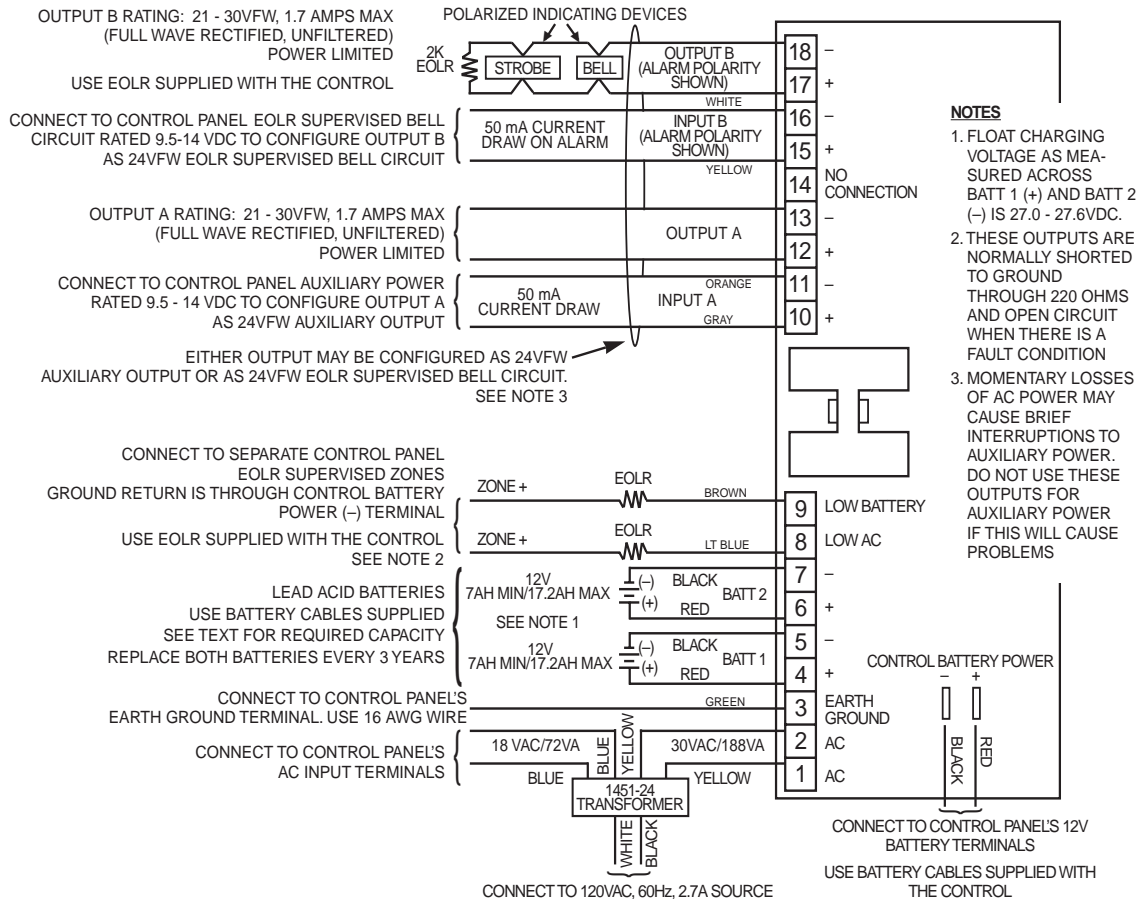

Figure 3. Making Connections to the PS24 Module
Wire AC power and earth ground as shown in Figure 3. **DO NOT APPLY AC POWER AT THIS TIME.**
- Wire INPUT A, INPUT B, OUTPUT A and OUTPUT B for the desired auxiliary power or bell circuit operation as shown in Figure 3. Devices powered from OUTPUT A or from OUTPUT B must be rated for 21–30VFW (full wave rectified, unfiltered) operation.
- Apply AC power and verify that the proper battery float charging voltage (27.0–27.6VDC) is present across the BATT 1 (+) and BATT 2 (–) terminals. Then connect two 12V lead-acid batteries as shown in Figure 3, using the battery cables supplied.